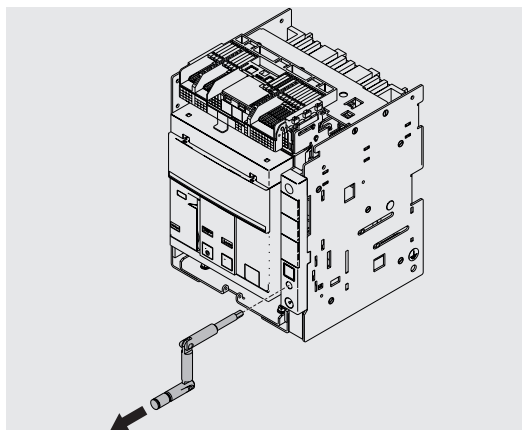

Figure 60
8. Extract the crank. See Figure 60.